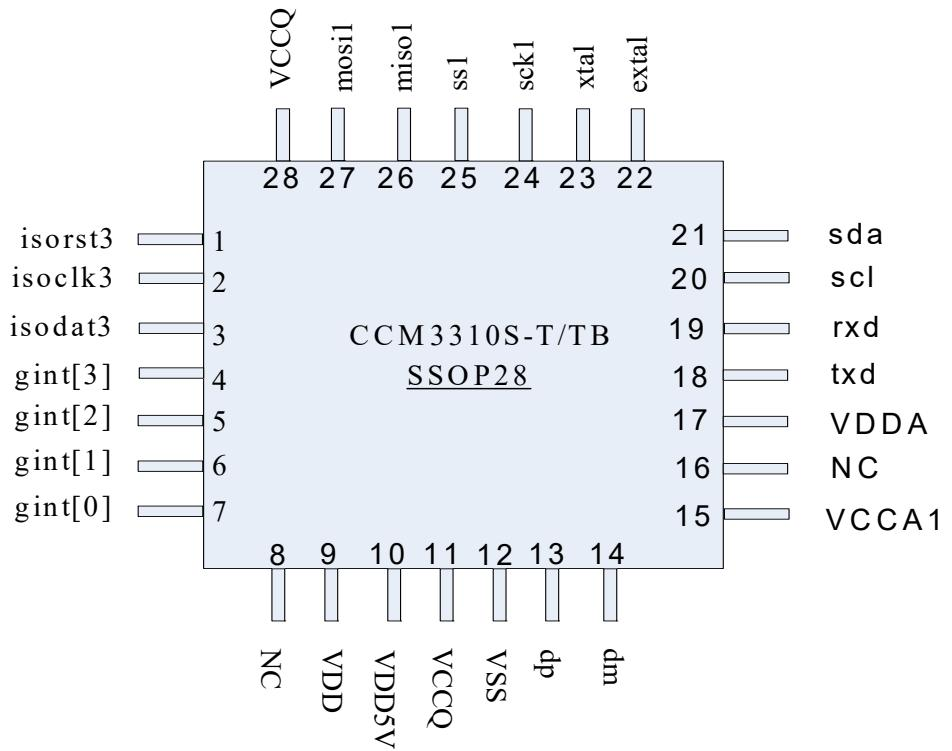

Figure 2-1 SSOP28 Package
- **Figure 2-1** for SSOP28 package